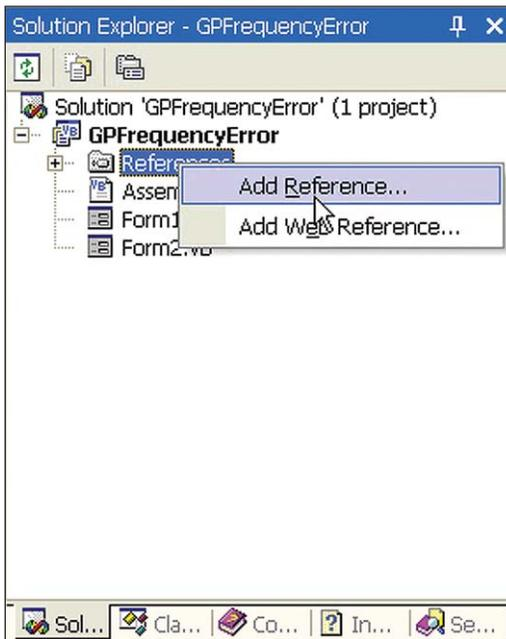

Figure 4. Solution Explorer window in Visual Studio .NET.
Step 1. Reference the IO library – Start Visual Studio .NET and create a new Visual Basic .NET application. In the **Solution Explorer** window, right-click **References** and click **Add Reference**. See Figure 4.